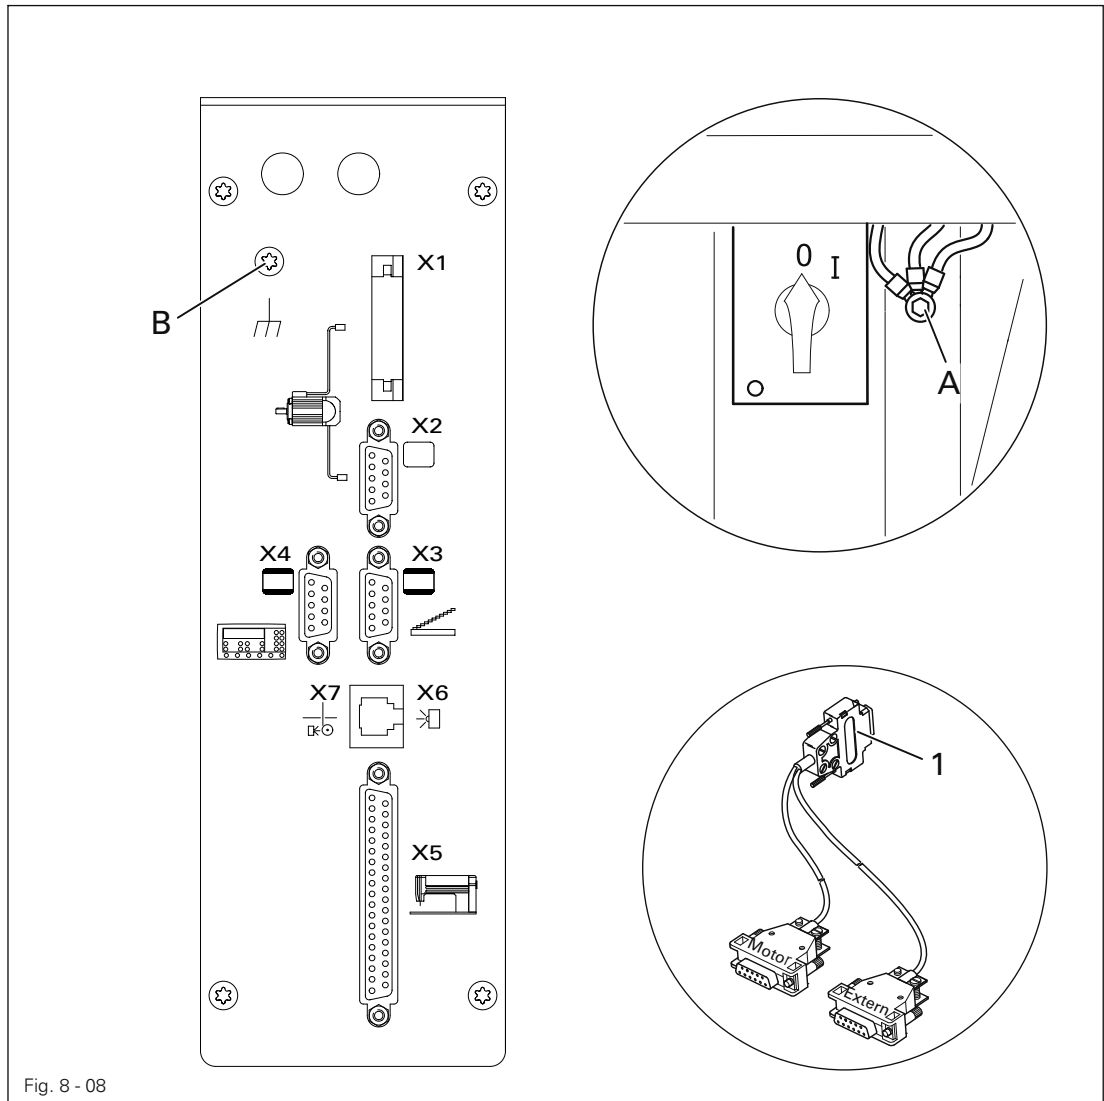

Fig. 8 - 08
- Fit the reel stand as shown in Fig. 8 - 07.